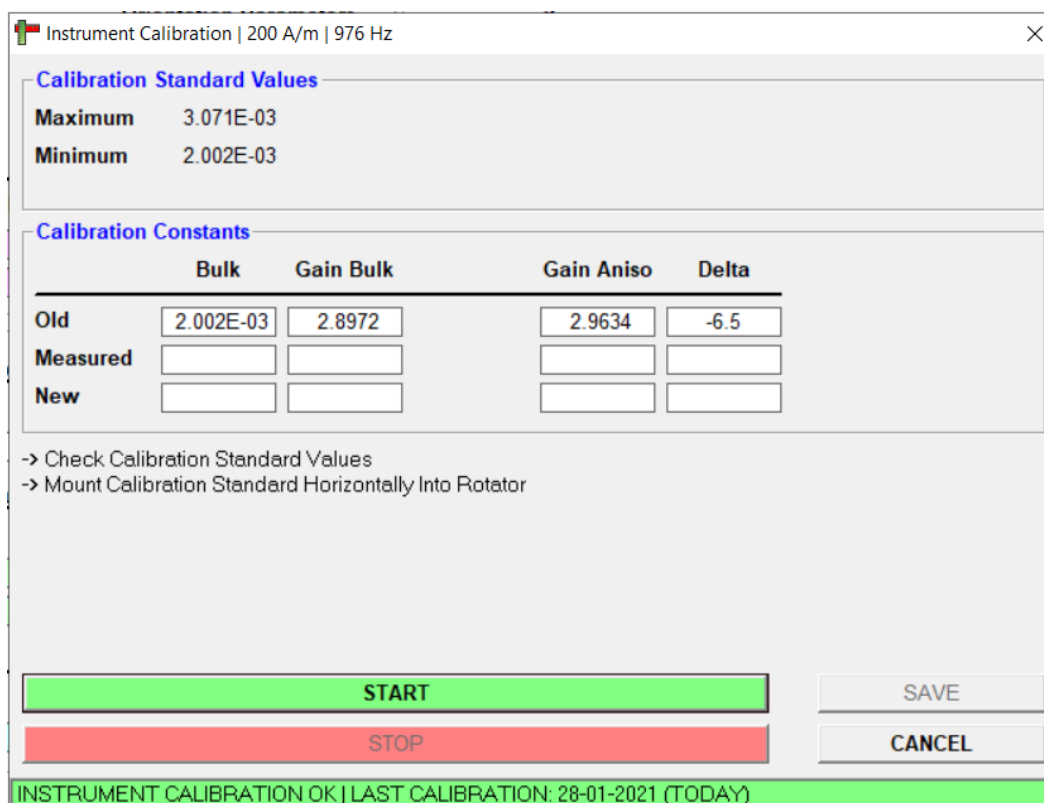

Figure 13: Instrument Calibration Window
1. Select **Execute: Instrument Calibration** or press F3 to open the Instrument Calibration window (Figure 13).